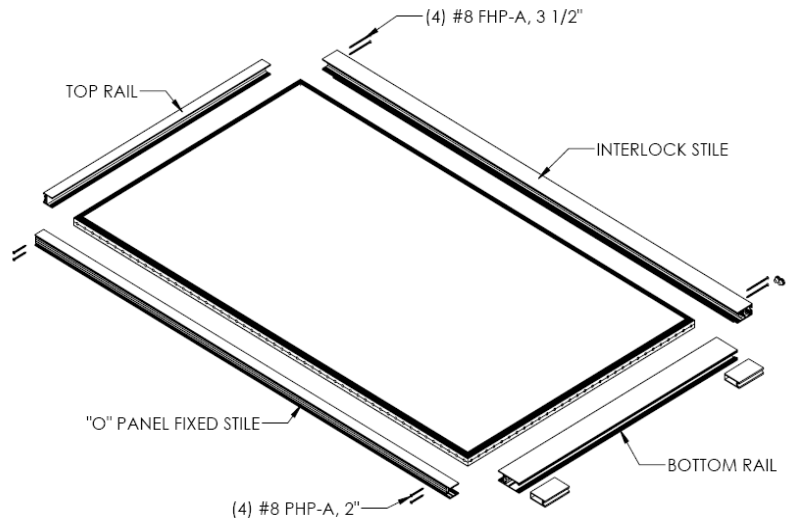

Figure 5:
5. Finish assembly by inserting (4) #8 x 3 1/2" flat head screws into the interlocker, and (4) #8 x 2" pan head screws into the fixed stile screw grooves in the top and bottom rails (Figure 5). Add wax to the ends of all fasteners to reduce the drive torque required for installation.